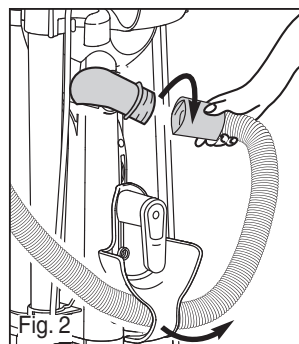

Fig. 2
- 4) If still clogged, twist hose cuff and remove hose from vacuum back (Fig 2).